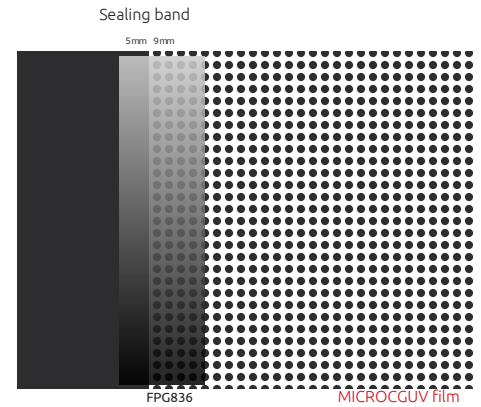

Figure07
- › Apply the strip by overlapping it by approximately 5 mm (0.2 in.) over the window OR pane and 7 mm (0.35 in.) over MICROCGUV film. (FIG. 07)